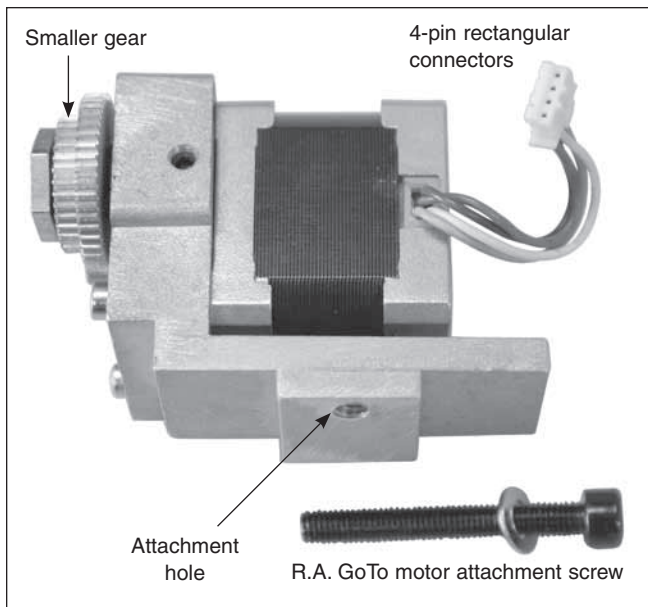
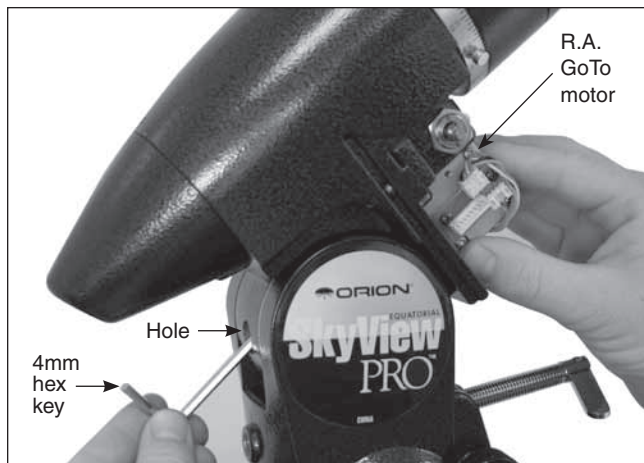

Figure 3. The R.A. GoTo motor assembly
Figure 4. Attaching the R.A. GoTo motor
3. The R.A. GoTo motor assembly is identified by the 4-pin rectangular connector attached to the motor body (**Figure 3**). The motor will be attached to the mount by a 40mm long socket-head cap screw that goes through the hole in the rear of the equatorial mount, just above the rear latitude adjustment L-bolt (**Figure 4**). It will be helpful to remove the rear latitude adjustment L-bolt while installing the R.A. GoTo motor. Place one of the 10mm flat washers onto the R.A. motor attachment screw. Attach the R.A. motor attachment screw to the end of a 4mm hex key and push it up through the hole in the rear of the equatorial mount (**Figure 4**). Hold the R.A. GoTo drive in your hand so its threaded hole meets the screw as it comes out the other end of the hole. Thread the screw into the threaded hole of the R.A. motor assembly until secure, but do not overtighten. You will need to make small adjustments to the motor position in the following steps.